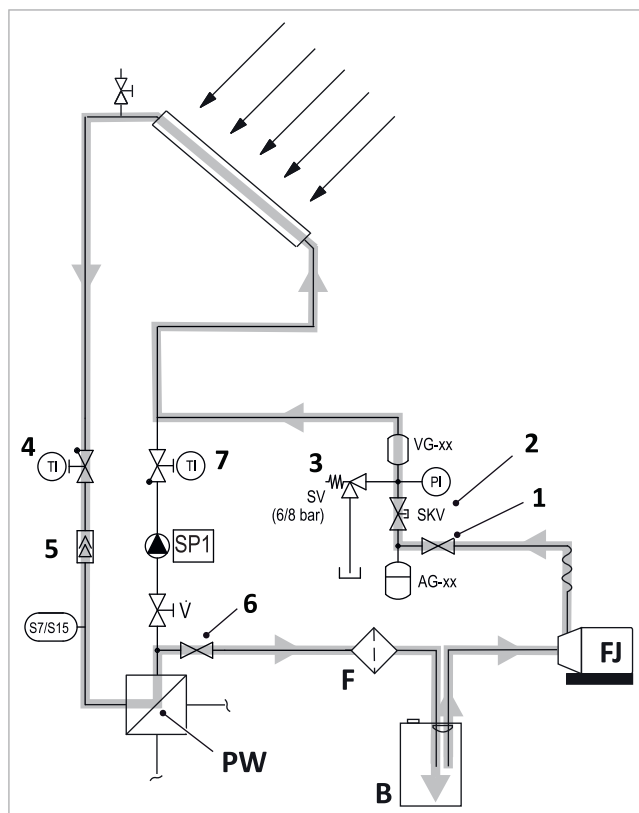

Fig. 11: Primary circuit: Flushing the collector field
Flushing the collector field (→ fig. 11)
Testing the primary circuit under pressure (→ Fig. 11)
Start up the primary circuit (see → Fig. 11, p. 17).
- Once the solar circuit has been refilled, gas will be emitted during operation, which collects in the station deaerator → Fig. 11, p. 17 (7). The gas emissions decrease as the operation time increases. It is therefore important to bleed the deaerator and check the system pressure every day in the first few days after start-up and then at regular intervals, depending on the amount of air discharged.